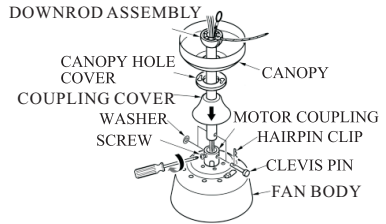

FIG.2
2. Insert the down rod through the center opening in the canopy, coupling cover and route the motor leads through the hanger ball/downrod assembly. Align the clevis pin holes in the downrod with the holes in the motor coupling. The clevis pin must pass through the holes in the motor coupling and the downrod. Place the washer onto the clevis pin and install the hairpin clip making sure to push straight leg of the hairpin clip through the hole near hanger ball to make sure the clevis pin is properly installed(see Fig.2)
## 4. CONNECTING THE RECEIVER (FIG.2)